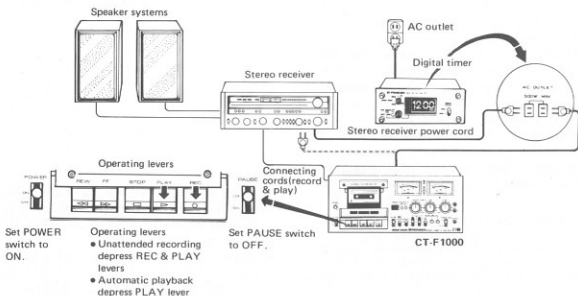

Fig. 11
1. As shown in Fig. 11 connect the CT-F1000's power cord to the timer. Also connect the receiver's power cord (or tuner, amplifier) so that the receiver's ON/OFF functions are controlled by the timer.
You can have the tape deck play back automatically at a desired time a pre-recorded tape. You can set the timer so that the tape's music wakes you up instead of an alarm clock. As shown in Fig. 11 connect the CT-F1000 and set the timer so that the power is switched on at the desired time. Follow the steps (1) to (6) in "Playback" on page 9 and the tape deck will play back the tape at the desired time.